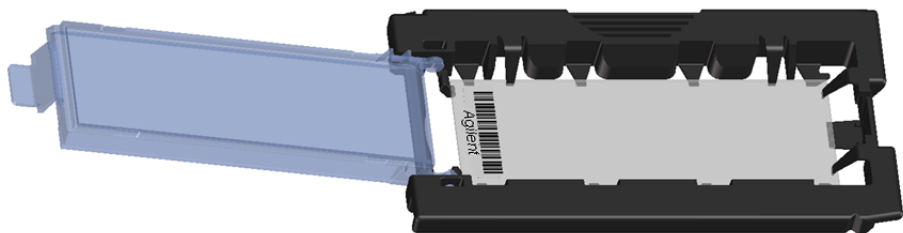

Figure 18. Slide inserted in slide holder – cover open
- c** Gently lower the slide into the slide holder. See **Figure 18**.